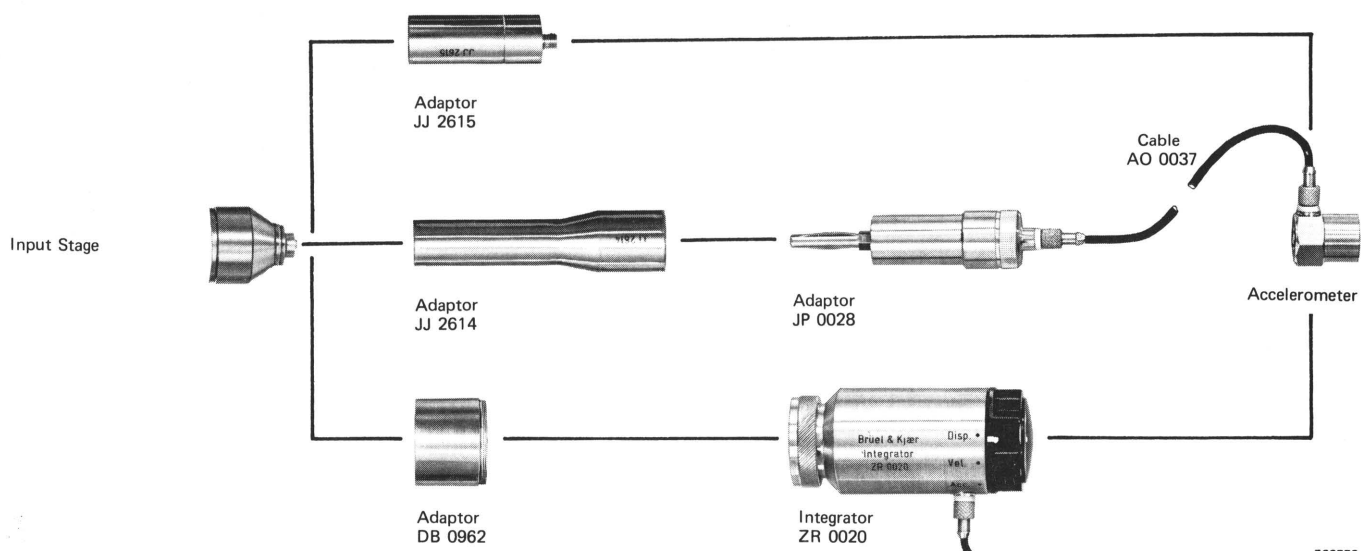

Fig.3.3. Connection of accelerometer
The Sound Level Meter Type 2203 may also be used to measure vibration levels by using one of the adaptors or the Integrator ZR 0020 shown in Fig.3.3. Full details of the ZR 0020 may be found on its Product Data Sheet. Using the adaptors, acceleration only can be measured; if the Integrator is used, acceleration, velocity, and displacement are all available. The meter reading (in dB) may be simply converted to vibration units ( $\text{ms}^{-2}$ ,  $\text{ms}^{-1}$ , m, in metric units or g,  $\text{s}^{-1}$ , in, in Imperial units) using the circular Slide Rule QH 0001 provided with the Integrator.
1. Mount the accelerometer on the 4291 (see the 4291 Instruction Manual), and connect it to the 2203 using one of the methods shown in Fig.3.3. If an Integrator is used, set it to the required position ("Acc.", "Vel.", or "Disp.").
5. Note the attenuator setting inside the red lines, and add 10 dB. This gives the zero reference value in dB (Z) corresponding to 1 g RMS, or any of the following vibration reference amplitudes (R) (which are equivalent to 1 g RMS at 79,6 Hz) to which the 2203 is now calibrated depending on the Integrator setting:
1. Connect the accelerometer to the 2203 using one of the methods shown in Fig.3.3. If an integrator is used, set it to the required position ("Acc.", "Vel.", or "Disp.").